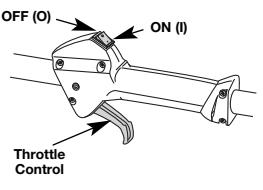

Fig. 8
NOTE: There is no need to turn the unit on. The On/Off Stop Control is in the ON (I) position at all times (Fig. 8).
- Press and hold the On/Off Stop Control switch in the OFF (O) position until the unit comes to a complete stop (Fig. 8).